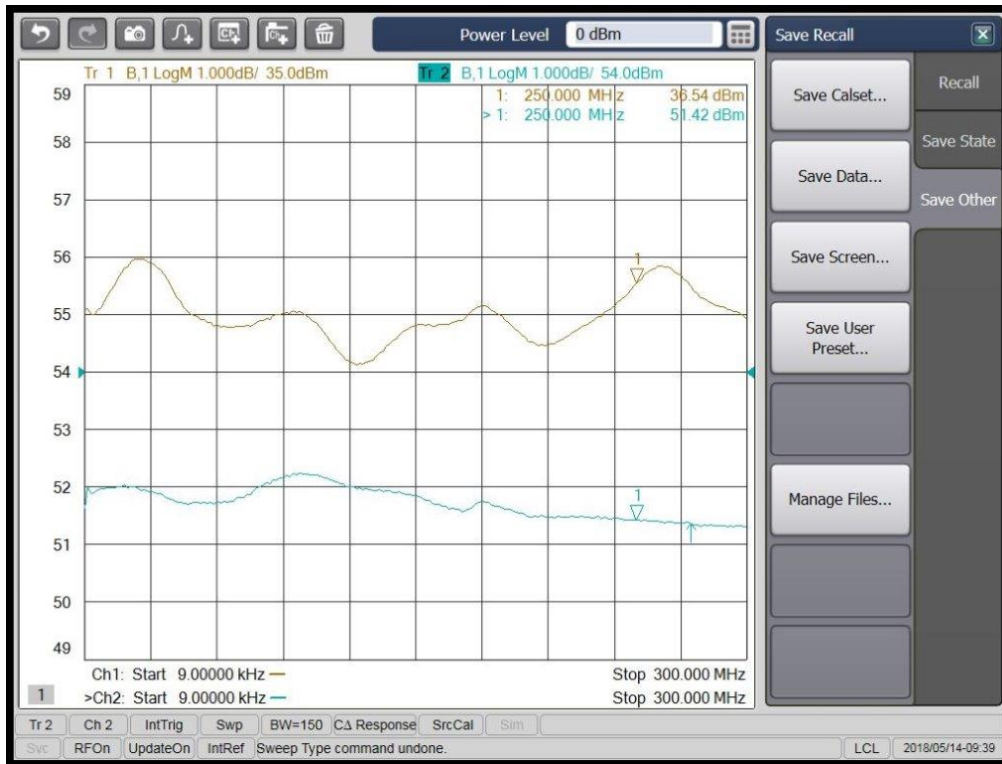

Figure 4-1. Typical Response at -20 dBm Input and 0 dBm Input
1. The Model 125A250’s typical gain response at 0 dBm input and -20 dBm input is shown in Figure 4-1. The actual gain may vary from that shown in Figure 4-1 but should be ≥ 51 dBm.